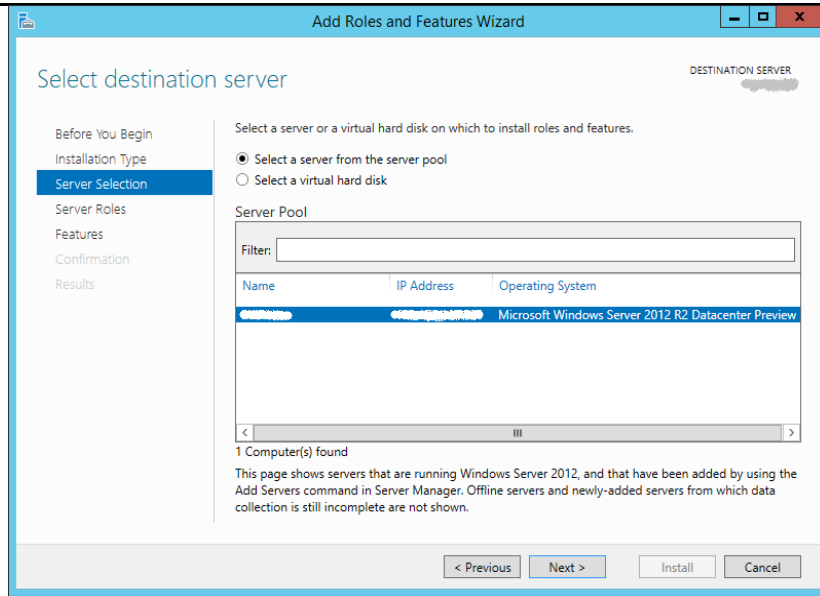

Figure 4. Server Selection section of the Add Roles and Features wizard
4. Click **Next**. The wizard displays the Server Selection section (shown in Figure 4). Click **Select a server from the server pool** and then select a server from the servers shown in the Server Pool.